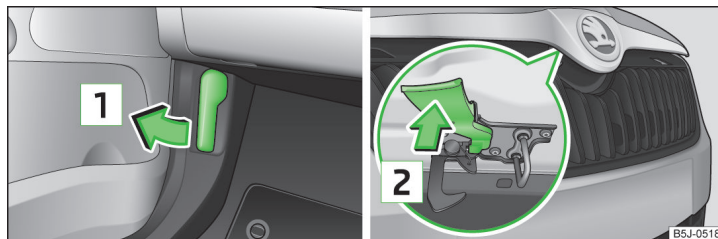

Fig. 132 Bonnet release lever/release lever
- Pull the release lever under the dash panel in the direction of the arrow **1** » Fig. 132.
Never open the bonnet by the locking lever » Fig. 132.